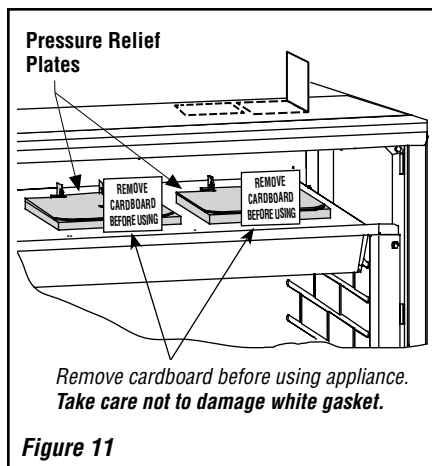

Figure 11
4. See **Figure 11**. Remove the top louvered panel and locate the pressure relief plates. Lift the pressure relief plates, and remove the cardboard from beneath each plate (taking care not to damage the white gasket).